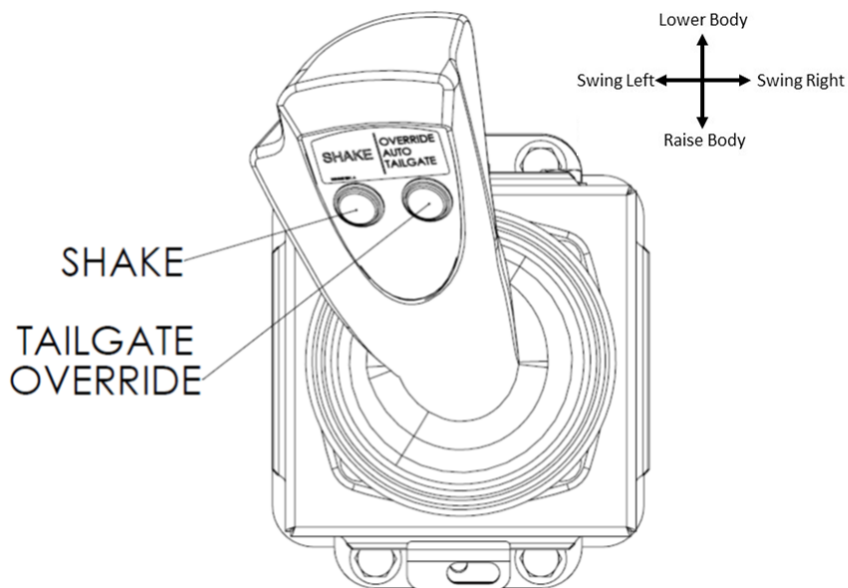

FIGURE 1-3 - JOYSTICK OPERATION
2. Pull the joystick back towards the rear of the truck to raise the body. Releasing the joystick from this position at any time will stop the body from rising. See Figure 1.3 for joystick operation.
2. Move the joystick to rotate the back of the body in the intended direction. See Figure 1.3. An alarm will sound while the body is being rotated. Releasing the joystick at any time will stop the dump body from moving.